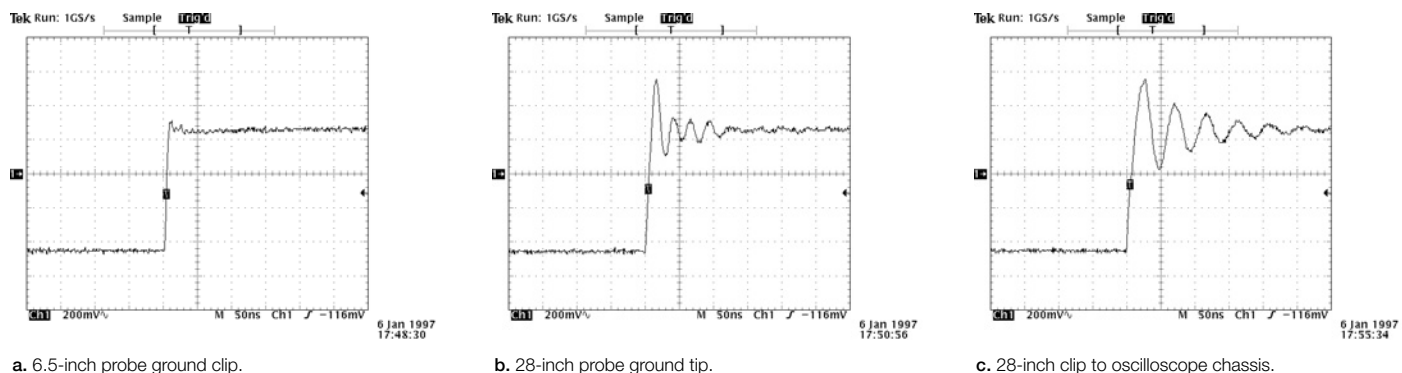

Figure 3. Effects of ground lead length on signal ringing.
- Sixth, minimize probe lead lengths to minimize the ringing on the signals. As shown in Figure 3, the inductance of the probe leads form a resonant circuit with the probe's input capacitance and will cause ringing after fast edges in the signal at a frequency specified by: